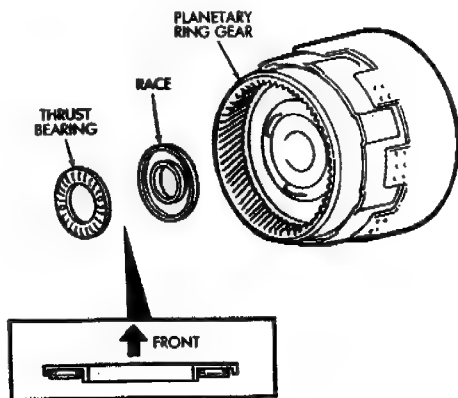

Fig. 28 Installing Ring Gear Bearing And Race
(35) Coat bearing and race with petroleum jelly and install them in ring gear (Fig. 28). Verify bearing/race size. Bearing outer diameter is 47.7 mm (1.878 in); inside diameter is 32.6 mm (1.283 in). Race outer diameter is 53.6 mm (2.110 in); inside diameter is 30.6 mm (1.205 in).